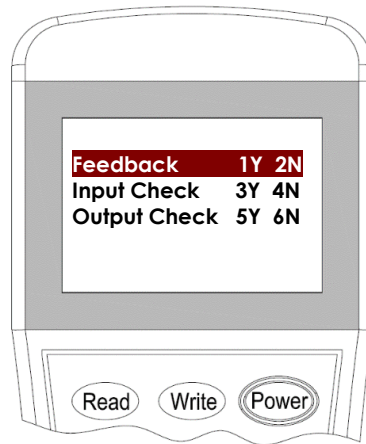

Figure 11
4. Input the **“1”** for Self-feedback mode or **“2”** for External-feedback mode then press **“Write”** to change the setting (Figure 11).